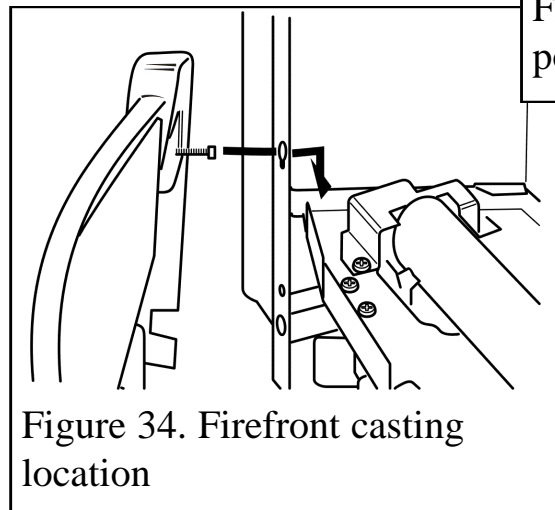

Figure 34. Firefront casting location
2. Locate the two screw heads through the keyhole slots at the inner sides of the fascia. If the screw heads do not project enough or project too far, the screws can be adjusted. Lower the casting so that it rests on the hearth (See figure 34).